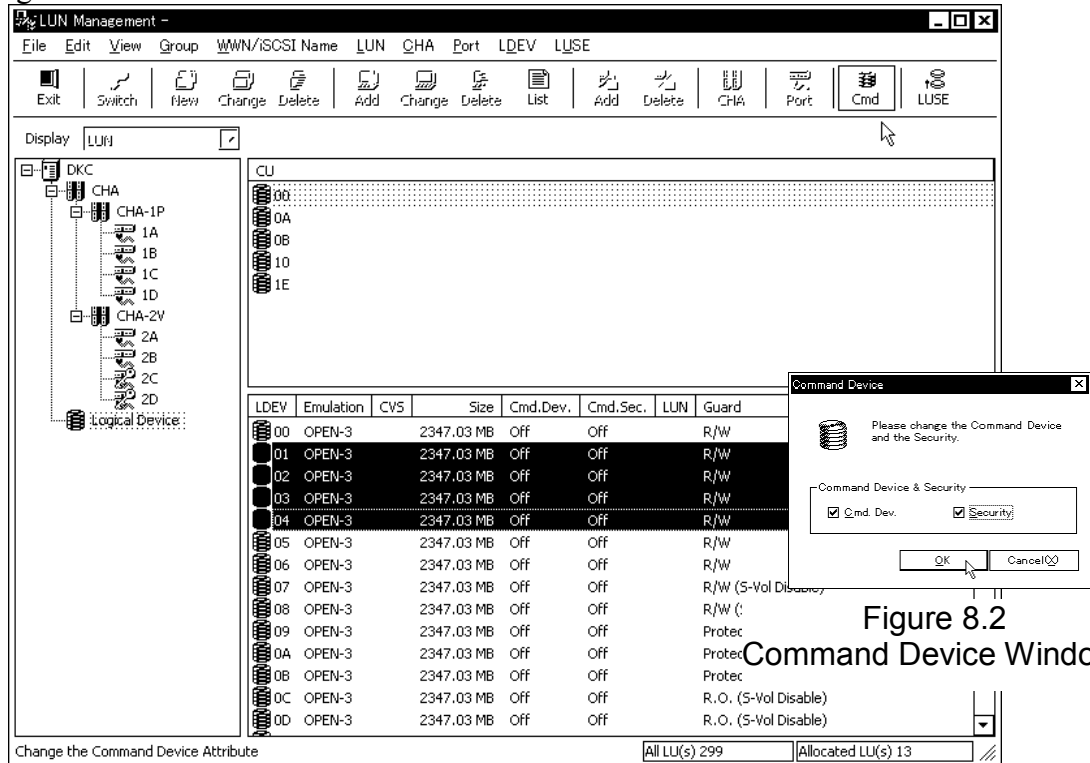

Figure 8.1 Main Window
- ① Select (CL) an LDEV you want to change from the lower right list.
- ② Select (DR) [Change...] from the [Device] menu in the Main window (Figure 8.1).